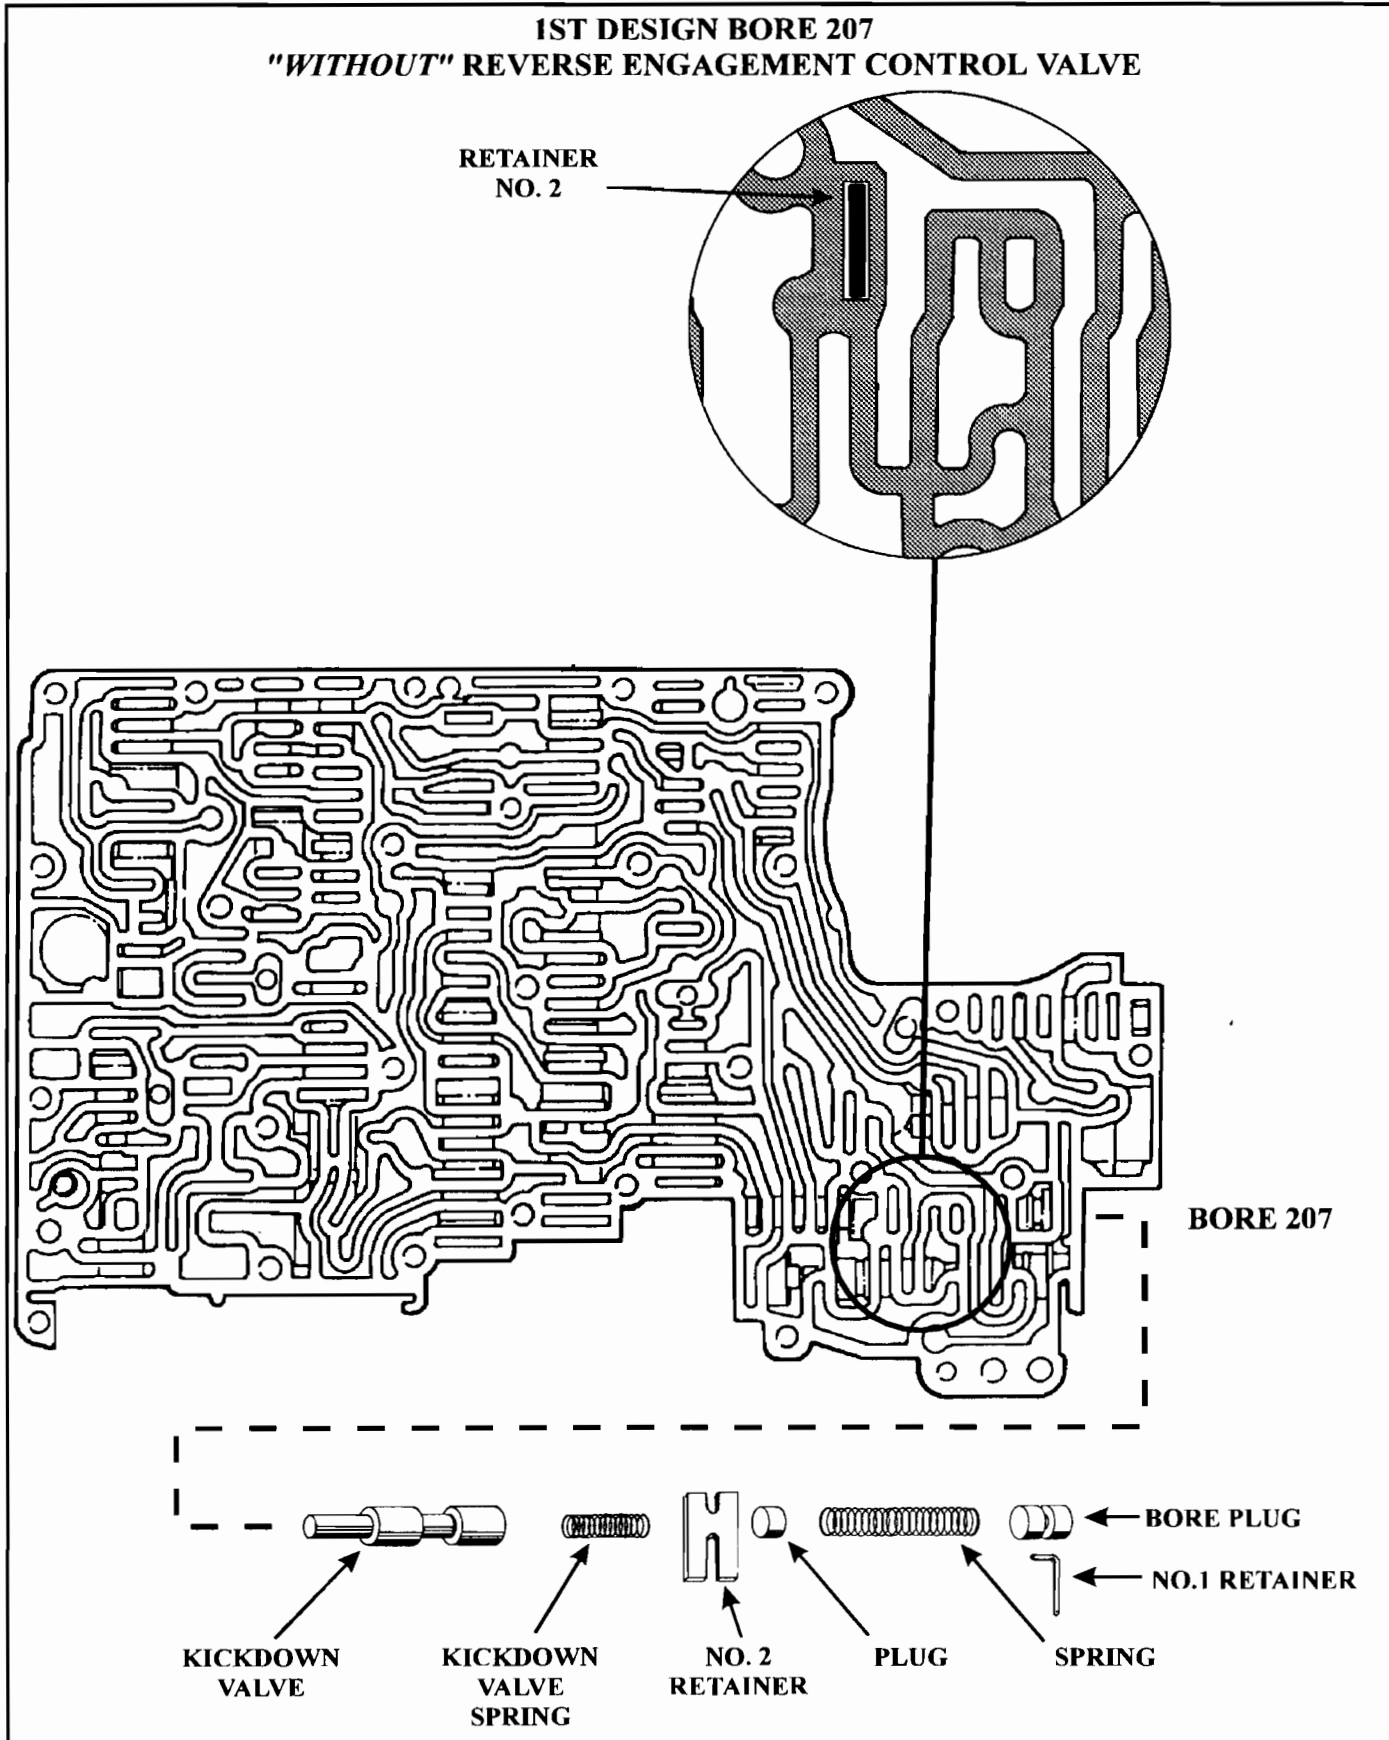
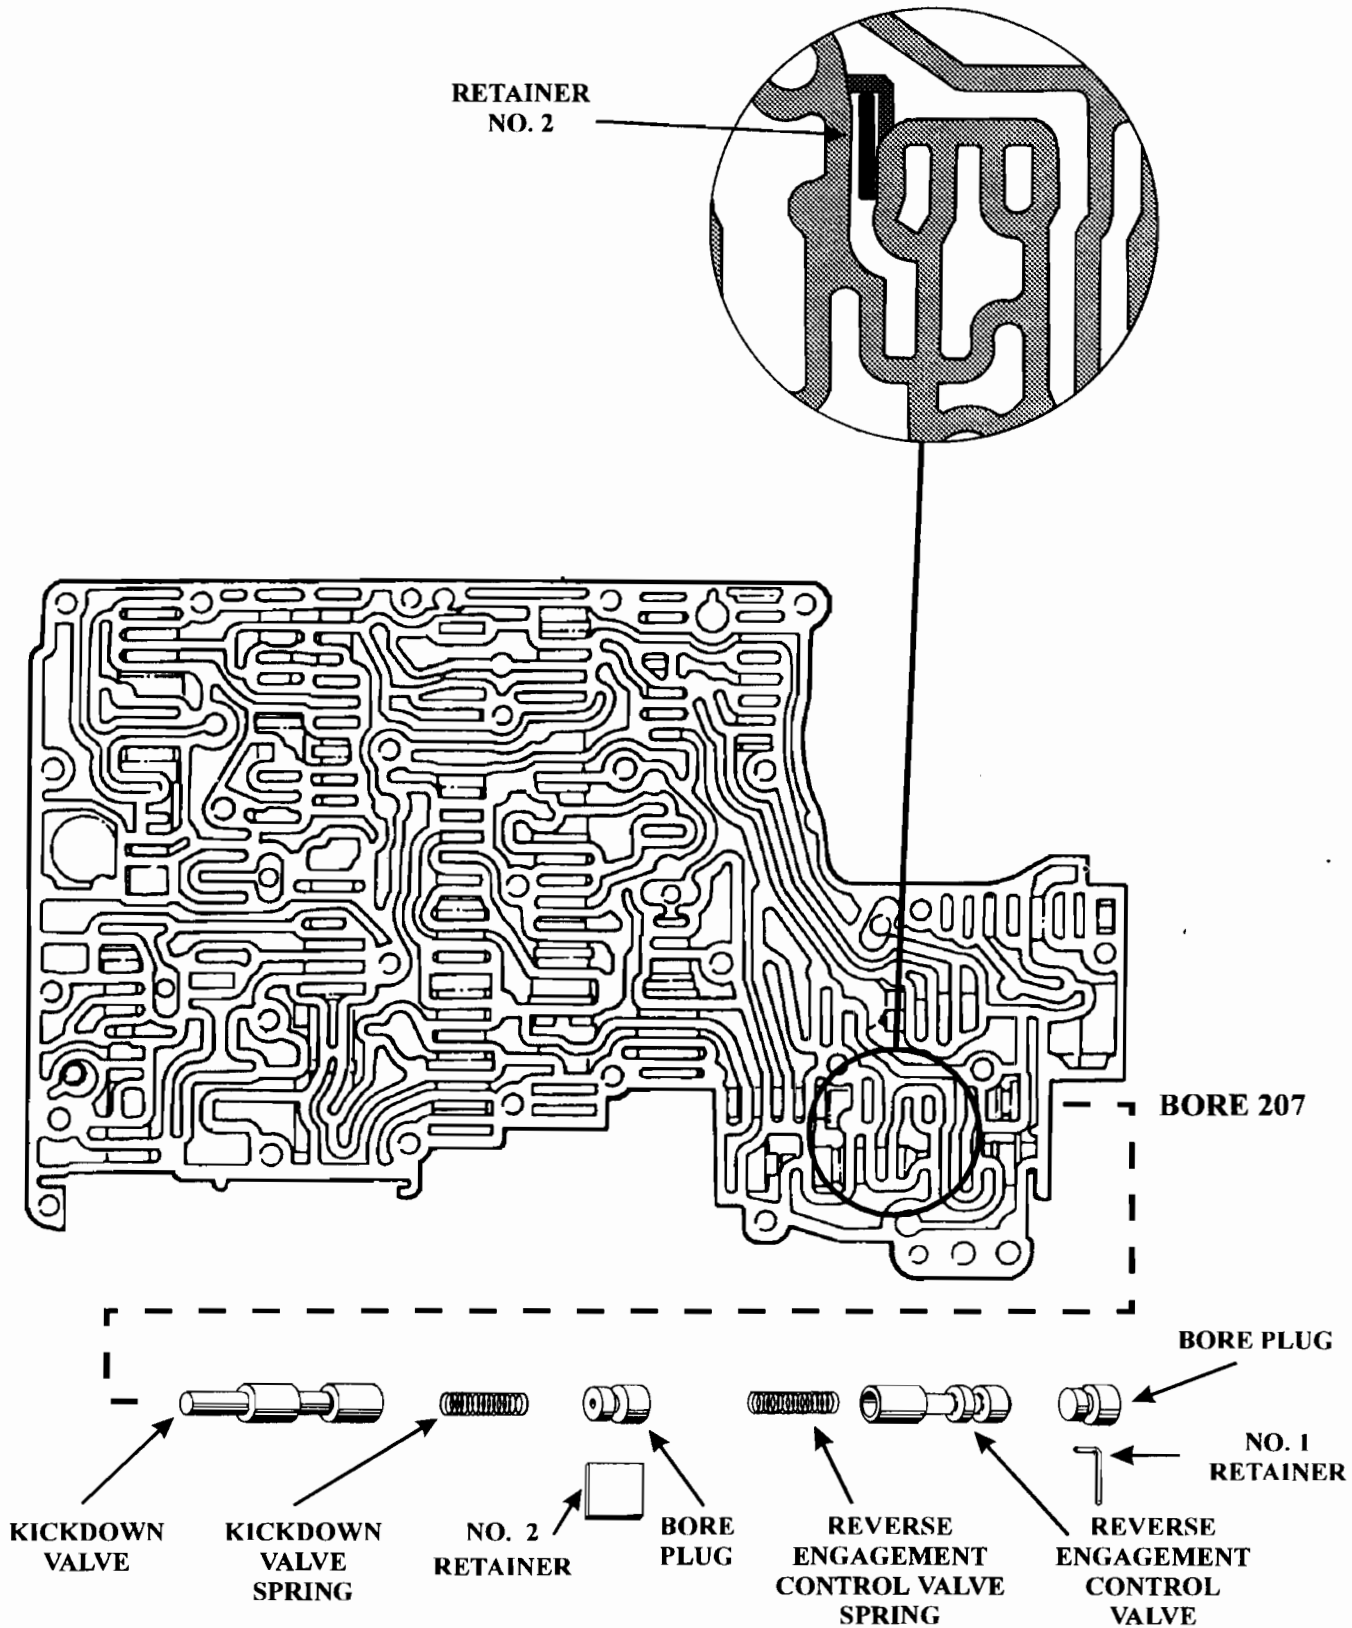

Figure 9
Figure 11
Figure 9 shows the correct line-up for this bore, and the No. 2 retainer location in the valve body casting. Figure 10 shows the "Slot" in the spacer plate that is **required** for the 1st design bore 207, "Without" reverse engagement valve.
This is when the reverse engagement control valve was added to bore 207, as shown in Figure 11, and also shows the location of the No. 2 retainer in the valve body casting and the direction of the bore plugs. Figure 12 shows the "3 Hole" spacer plate that is **required** on valve bodies containing the reverse engagement control valve.
**NOTE:** Valve body castings are also different in the worm track area, when it comes to bore 207. Compare the inset in Figure 9 to the inset in Figure 11, and you will see the difference in the passages, which will not allow you to install reverse engagement valve into a 1st design valve body casting.